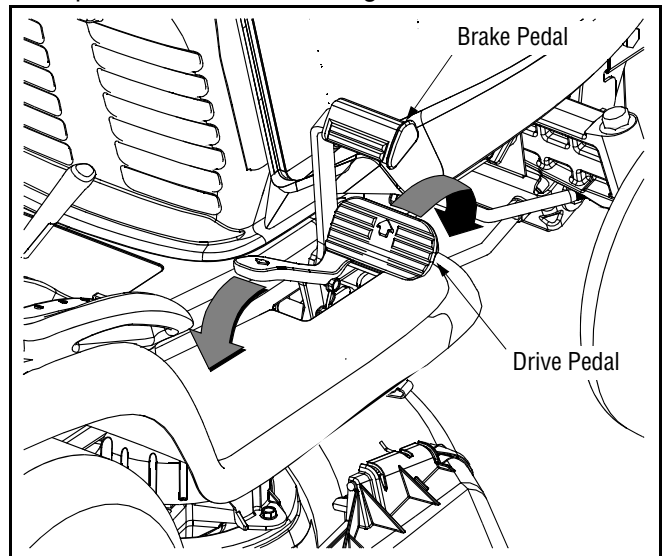

Figure 10
- To travel **FORWARD**, slowly press the upper portion of the drive pedal forward until the desired speed is achieved. See Figure 10.
- To travel in **REVERSE**, check that the area behind is clear then slowly press the lower portion of the drive pedal with the ball of your foot (NOT your heel) until the desired speed is achieved. See Figure 10.